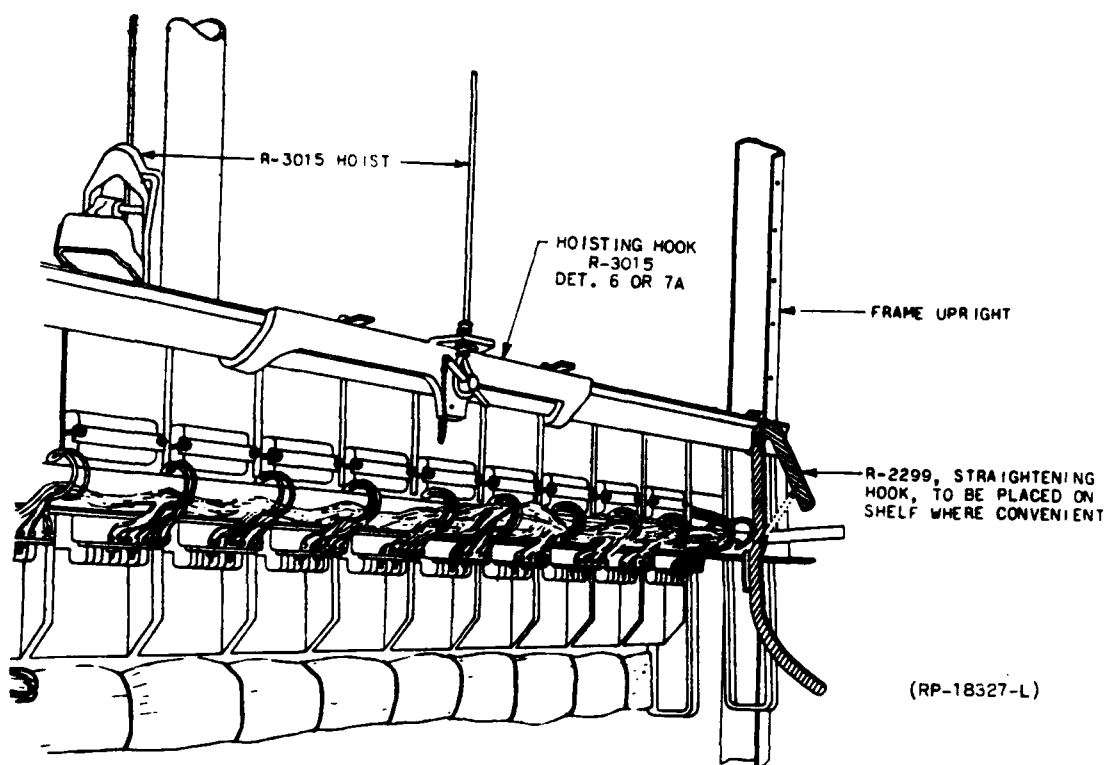

FIG. 10 USE OF SHELF STRAIGHTENING HOOKS
- 7.05 Hoist the shelf to the correct height for mounting, attach the shelf straightening hooks as shown in Figure 10 and push the shelf into place. Use extreme caution when attaching the straightening hooks to prevent damage to unit equipment and wiring.